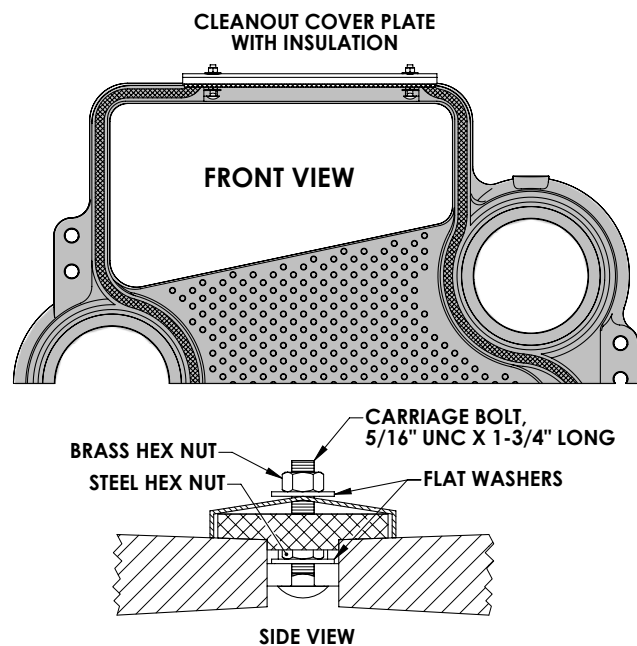

Figure 2.9: Install Cleanout Cover Plates
1. Apply the Cleanout Cover Plates on the tops of the section joints as shown in Figure 2.9.